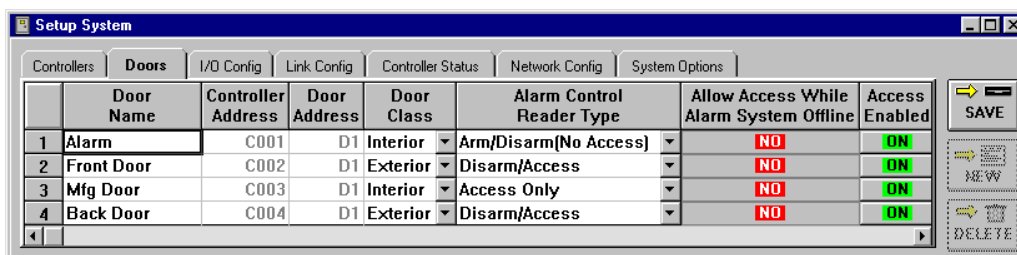

Figure 20: Setup System - Alarm Control Reader Type Set
- Repeat steps 2 through 4 for each controller/door. The resulting window should look similar to Figure 20.